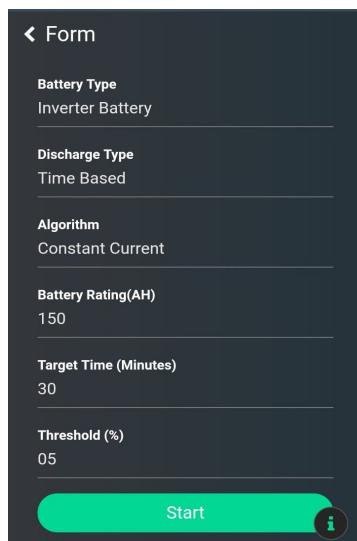

fig. 4
Step 6: Fill the form and click on the start button which is at the end of form(fig 4).